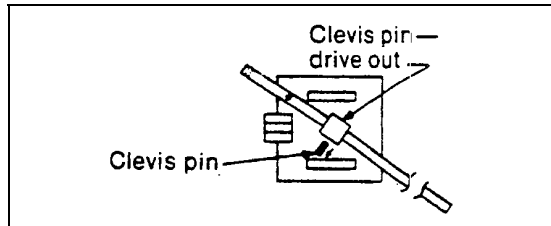

Figure 4 – Lever Position
3. Lift lever from pivot notch and place in position shown in Figure 4. It may be necessary to loosen set screw in top of clevis.